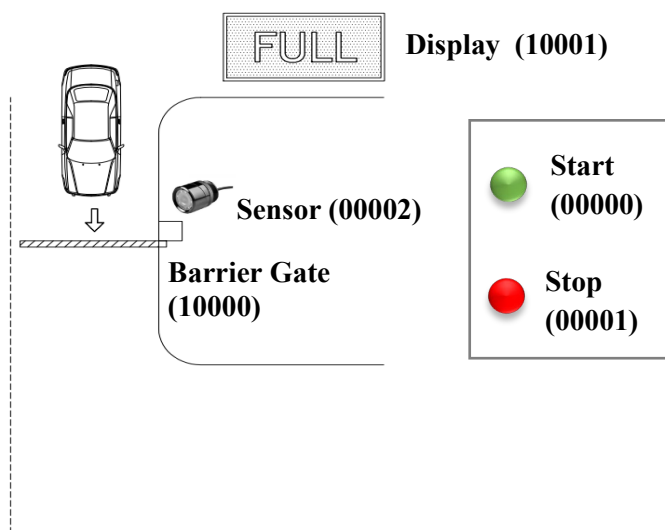

Figure A2(c)/Rajah A2(c)
- CLO1 c) Figure A2(c) shows a simple car park control system that allows only 50 cars in a parking space area. The system can only start after pressing the start button. The sensor will detect every time a car is near the barrier gate. Once detected, the barrier gate will open to allow the car to enter the car park. The barrier gate will close again after the car has passed through the barrier. When the sensor detects 50 cars, the sign board will show 'FULL'. A reset push button is used to reset the